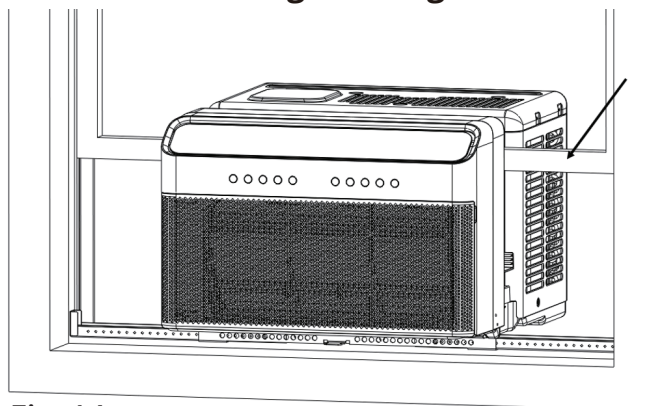
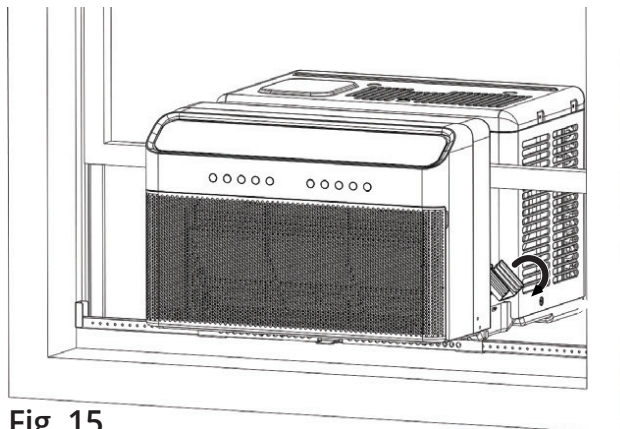

Fig. 14
Fig. 15
B. Now, pull the window down into the slot to help align and position the unit into the correct location. Keep the window partially inserted into the window slot to help support the air conditioner during the installation. Then, fold down the **Side Arm Hinges** on both sides of the unit. Please refer to the **Fig. 14 & Fig. 15** below.